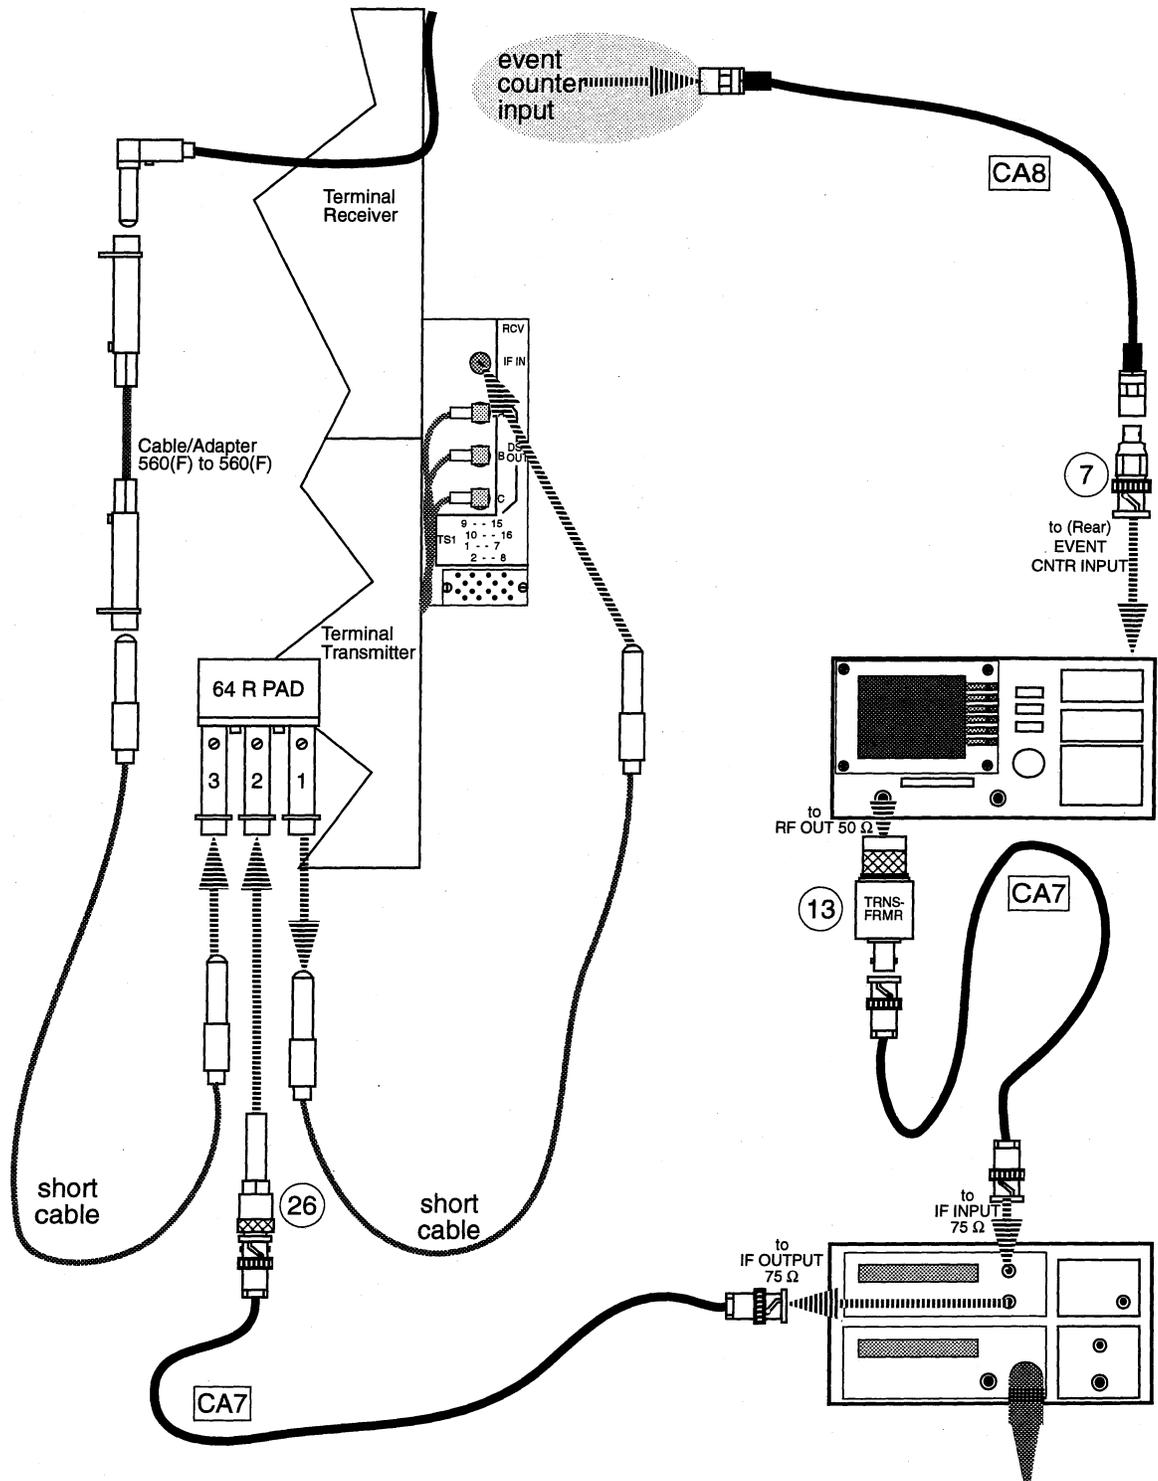
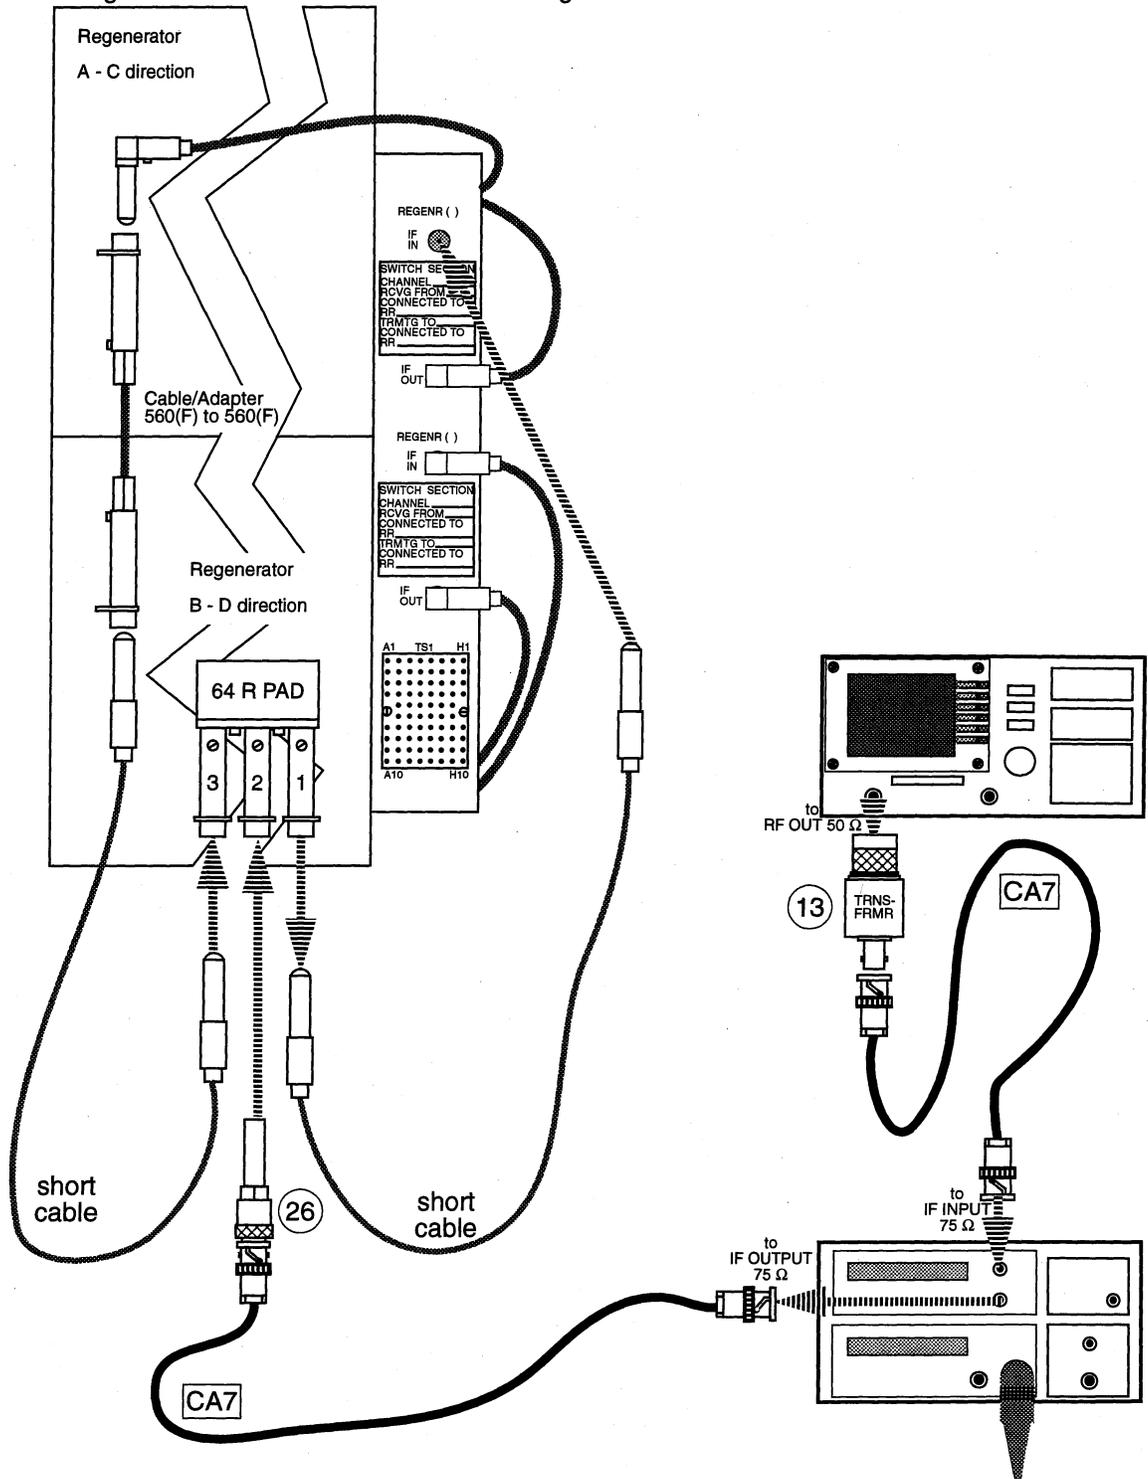

Figure 19. Terminal Over-the-Air S/I
Figure 20. Regenerator Over-the-Air S/I
*Comment: You have established an Interfering tone at 74 MHz. For an Error Corrected (EC) system, the "I" level is 34.5 dB below the "S" level. Next, you will combine the "S" and the "I" signals in the split pad and connect them to the digital receiver. You will use the bar graph BER to measure hop performance.*
- 12 Connect the test equipment as shown in Figure 19 (Terminal) or Figure 20 (Regenerator).